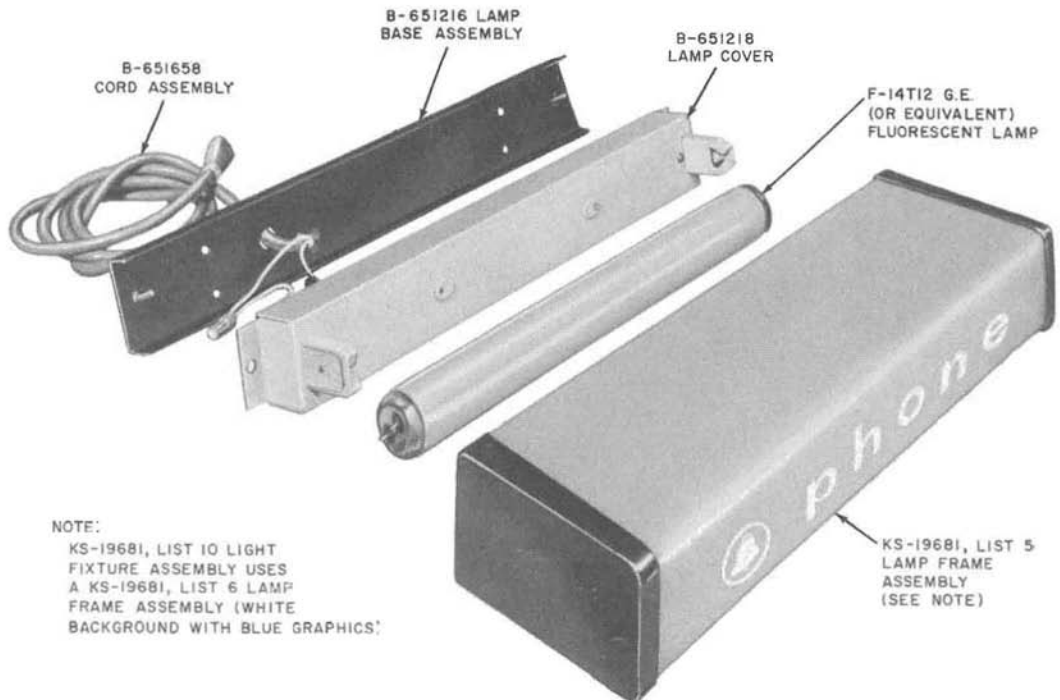

Fig. 6—KS-19681, List 9 Light Fixture Assembly
- (1) Remove tamper resistant screw at top center of shelf using a KS-19192, List 1 wrench.
- (2) Remove sign to the left and pull away from shelf.
- (3) Install new sign, using reverse procedure.
- 4.06** To replace KS-19681, List 9 or List 10 sign (Fig. 6) with same type sign:
- (1) Remove sign as in 4.05 (1) and (2).
- (2) Insert four plasti-grommet inserts (Fastex Div. of Ill. Tool Works No. 242-180602-90-0101-3; (furnished with light fixture) in the four mounting holes.
- (3) Disassemble the sign to make wiring accessible (Fig. 6).
- (4) Remove wire nuts and disconnect lamp cord from ballast and lamp holder.
- (5) Run a fish tape through entrance hole in rear of shelf and down wire channel until it is accessible at bottom of shelf.
- (6) Tie lamp cord to fish tape and pull it up into position.
- (7) Install base assembly on shelf using the four No. 8 by 3/4 Phillips head self-tapping screws furnished with light fixture.
- (8) Reconnect lamp cord to ballast and lamp holder.
- (9) Install cover on base assembly.
- (10) Install fluorescent lamp (G.E. No. F14T12 or equivalent).
- (11) Install frame and diffuser and secure them with the four No. 8-32 by 1/2 stainless steel screws.
- (12) Plug lamp cord into wall socket.